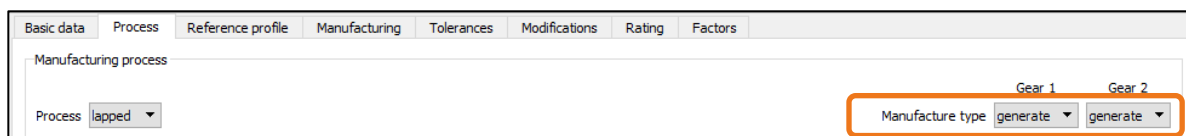

Figure 18. «For generated gears» and «Made by form cutting» manufacturing types
11. In the «**Process**» tab, under **manufacturing process**, select «generate» or «formate» settings to influence the tooth thickness at the root. As a rule of thumb, for conversions $i > 2.5$ the «formate» process is selected for bevel gears because they can be manufactured more quickly with this process. The pinion is always generated. (see Figure 18).